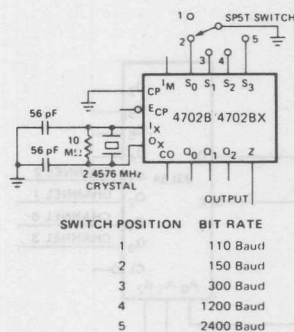

Fig. 1
Single Channel Bit Rate Generator — Figure 1 shows the simplest application of the 4702B/4702BX. This circuit generates one of five possible bit rates as determined by the setting of a single pole, 5-position switch. The bit rate output (Z) drives one standard TTL load or four low power Schottky loads over the full temperature range. The possible output frequencies correspond to 110, 150, 300, 1200, and 2400 Baud. For many low cost terminals these five bit rates are adequate.